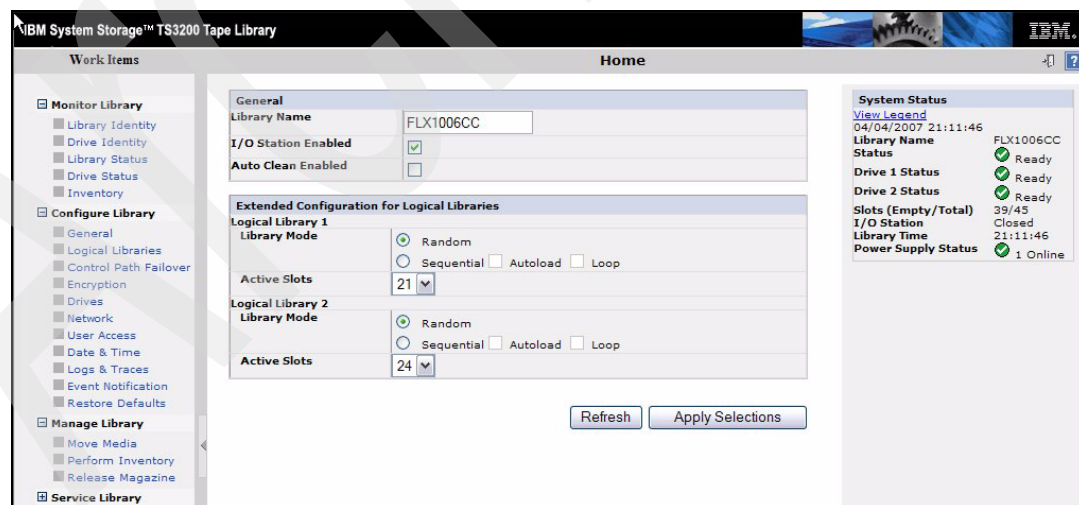

Figure 2-9 IBM TS3200 Partition details
3. Verify the definitions selecting **Configure Library** → **General**; see Figure 2-9.